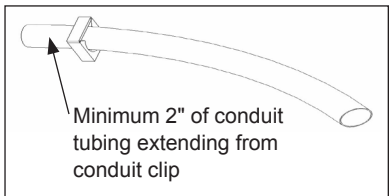

Figure 16: Conduit & Clip
3. Attach one plastic conduit clip at least 2" from one end of the conduit. Refer to **Figure 16**.
8. Ensure at least 2" of conduit extends into both sections. Trim any excess conduit from the inside of the section. Refer to **Figure 16**.